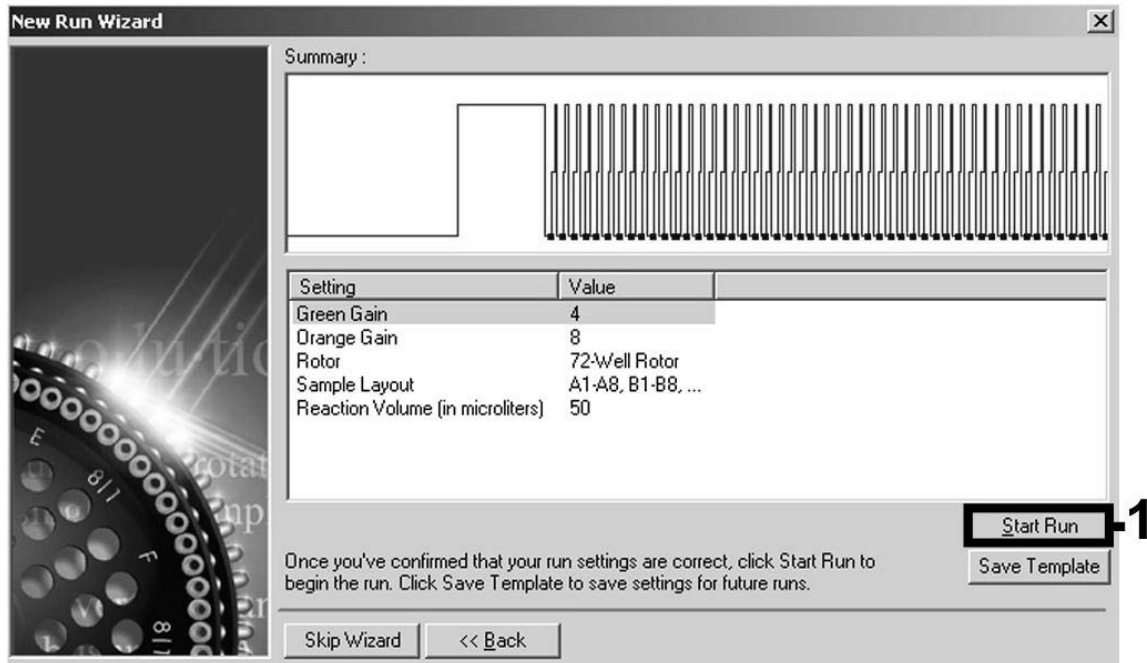

Figure 12. Starting the run.
Starting the run	Figure 12
8. The gain values determined by the channel calibration are saved automatically and are listed in the last menu window of the programming procedure (Figure 12). Click “Start Run”.